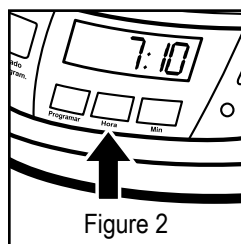

Figure 2
1. Press and hold the HOUR button until the clock displays the correct hour. See Figure 2.